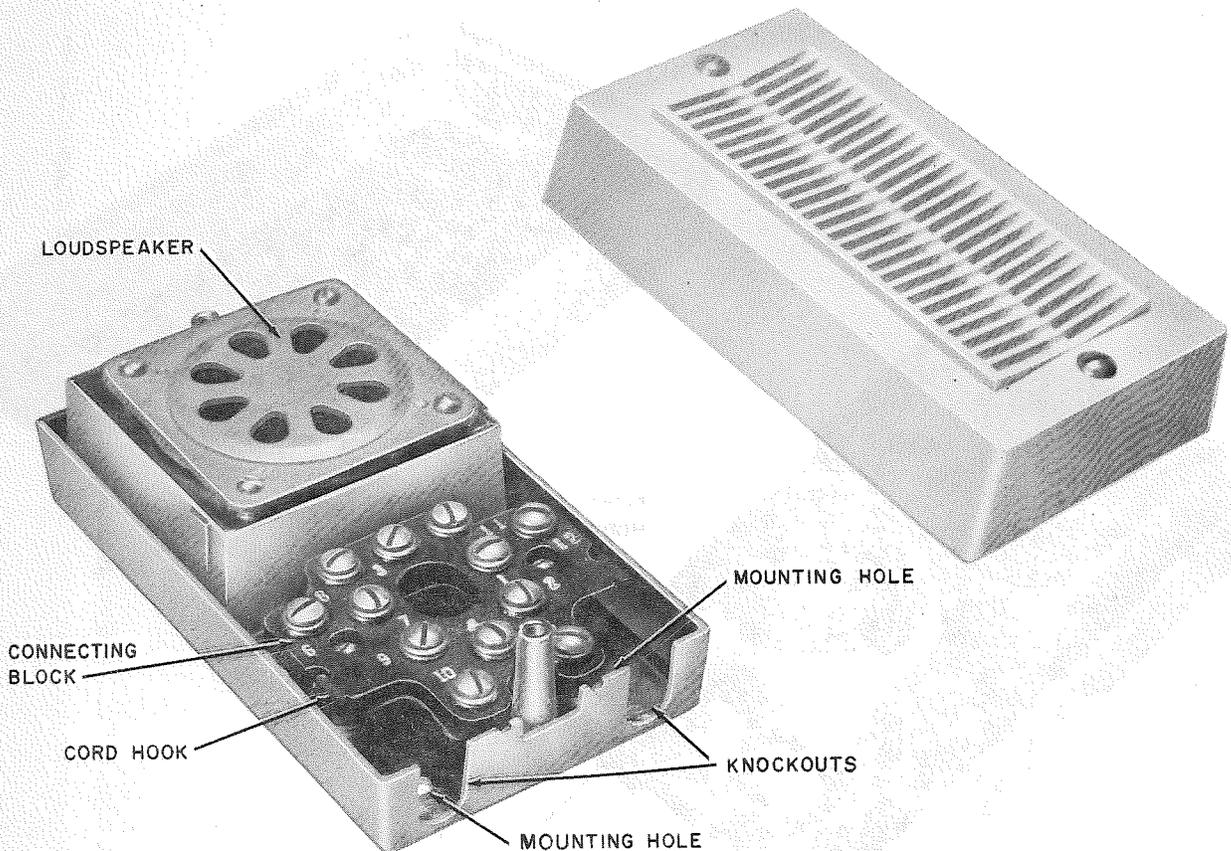

Fig. 2—759A (MD) Loudspeaker
2.07 759A (MD) Loudspeaker (room speaker).
- (b) Four mounting holes are provided in the base for securing to the mounting surface (Fig. 2). Cord and cable enter through two holes in base or through the end after removing the knockouts.